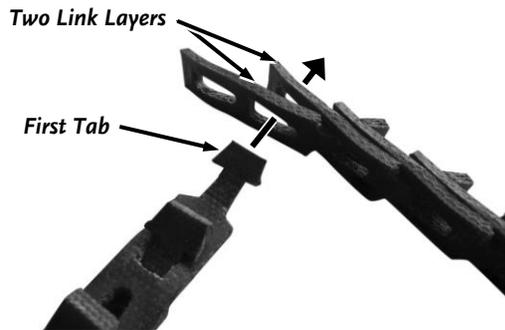

Figure 43
2. Twist the Tab end sideways and insert it through the two Slots until it comes out the other side (**Figure 43**).